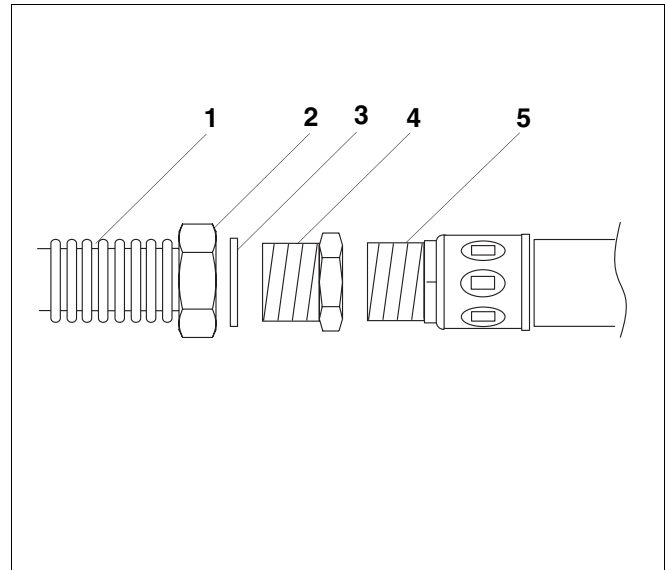

Fig. 8 Connect the corrugated stainless steel hose with R3/4 connections to the cylinder.
- Thread the reducer Rp3/4 × R1 (Fig. 8, **item 4**) onto the cylinder connection R3/4 (Fig. 8, **item 5**) to connect the cylinder with the complete station.
- Insert the gasket (Fig. 8, **item 3**) into the pre-assembled union nut Rp1 (Fig. 8, **item 2**).
- Thread the pre-assembled union nut Rp1 (Fig. 8, **item 2**) of the corrugated stainless steel hose onto the R1 thread of the reducer Rp3/4 × R1 (Fig. 8, **item 4**).